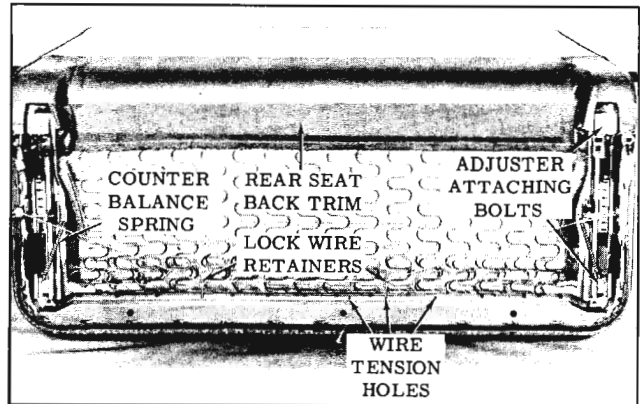

Fig. 16-309 Front Seat Adjuster Removal
2. Remove seat adjuster counterbalance spring attached to seat adjuster front support and seat bottom frame as shown in Fig. 16-309.
7. If right adjuster does not lock or unlock satisfactorily when control handle on left adjuster is operated, disengage locking wire retainer on right side of seat from hole in seat bottom frame and engage retainer in one of adjacent holes to obtain proper tension in wire. (Fig. 16-309)
2. Remove hog rings securing central portion of lower rear edge of seat back trim from front seat cushion spring assembly. (Fig. 16-309)